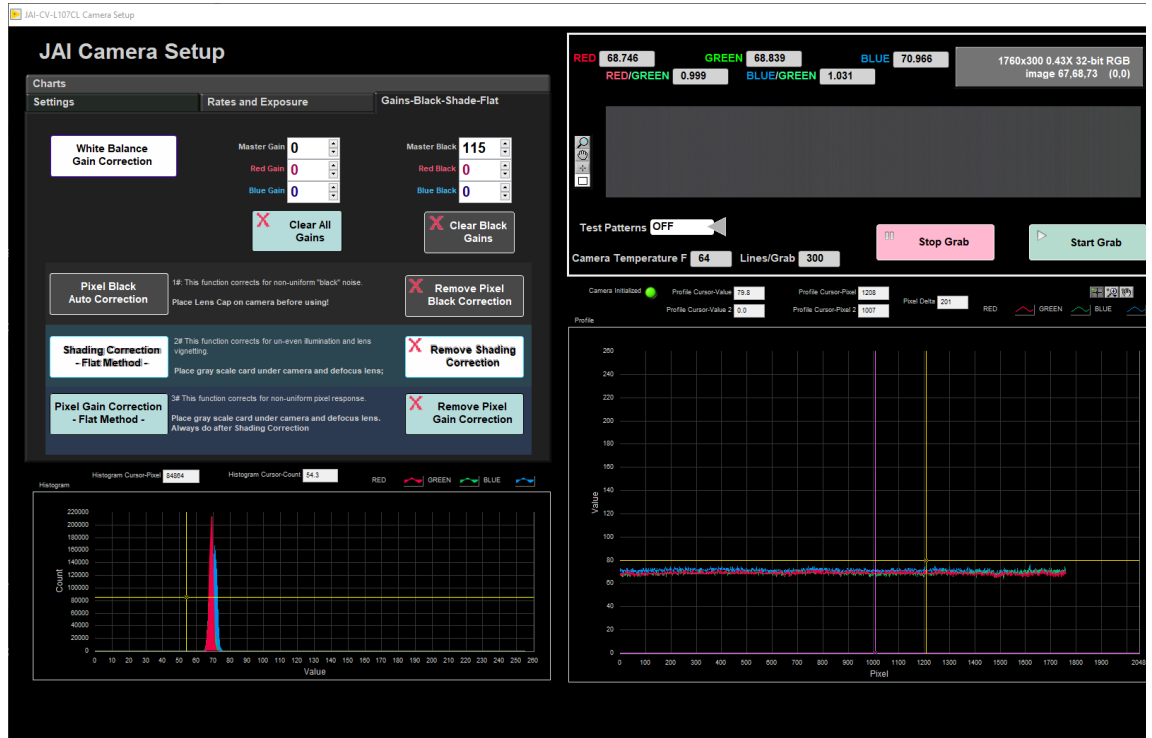

Figure 50: Grab and Profile after the Pixel Gain Correction has been applied.
2. Click the **Pixel Gain Correction - Flat Method** button and move the camera very slowly back and forth. This averages the pixels and helps eliminate streaking in the image. This will take several seconds, don't click anything else until it is done. When its done the RGB lines should still be flat and the individual RGB the same, but may not be equal to each other (Figure 50).